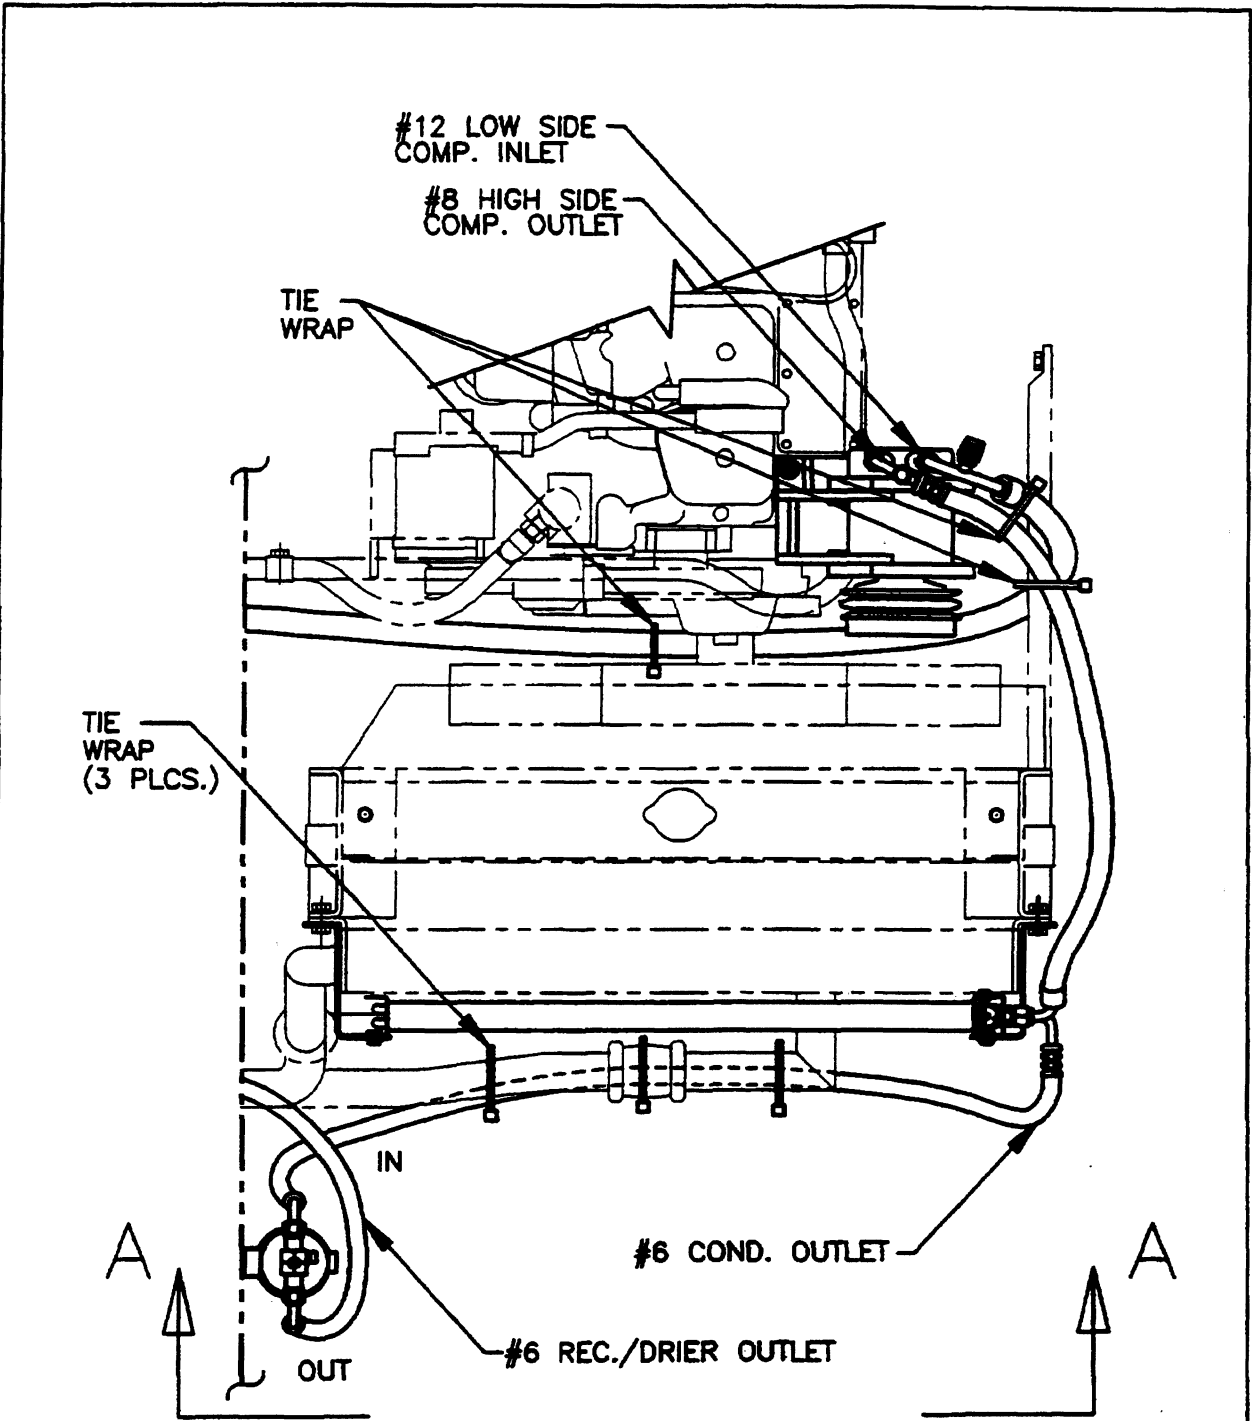

FIGURE 3a
2. For SK200/220 see Figures 3A and 3B.
(See Figures 3A and 3B)**
Note: Some components will vary from vehicle to vehicle but the hose routing will remain the same. See Figures 3A, 3B and 3C for pictorial representation.